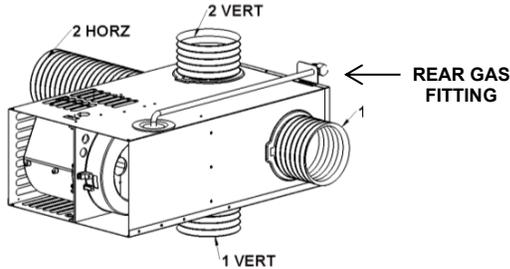

Figure 6
- Connect gas line to top, side or rear of furnace. See gas connection Figure 6.
1. Remove knockout plate from desired outlets. See Figure 6. If both 4" outlets are not being used leave in place, if removed a cover plate can be purchased.